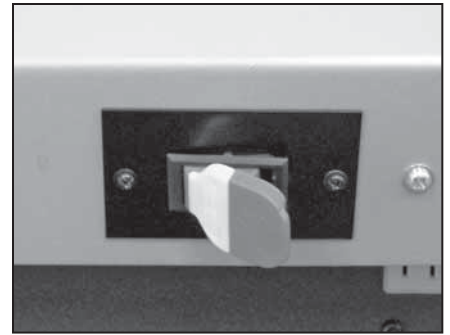

Figure 18
11. Turn the router switch on – refer to the manufacturer instructions. See Figure 18.